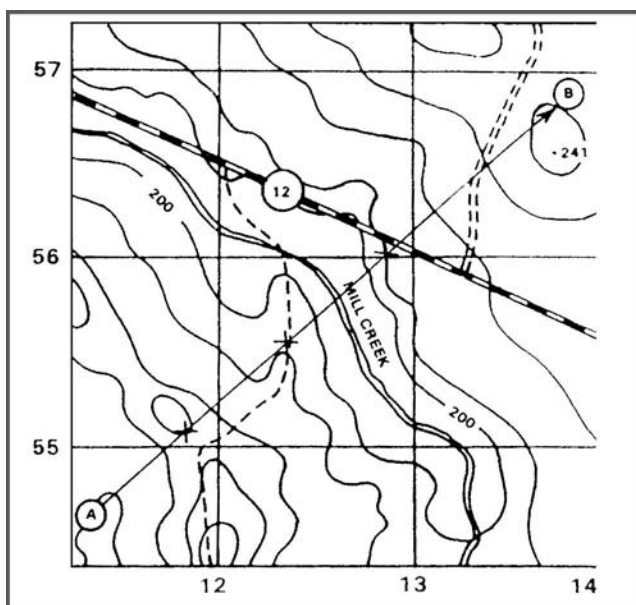

Figure 071-329-1006-1. Straight-line route
a. Locate your position on the map, and then locate your destination or objective. A straight line between the two is seldom the best way to travel. For example, look at figure 071-329-1006-1. Assume that you are to move from A to B. Notice that traveling a straight line between them might take you through several ridges and valleys (the "Xs" on figure 071-329-1006-1).